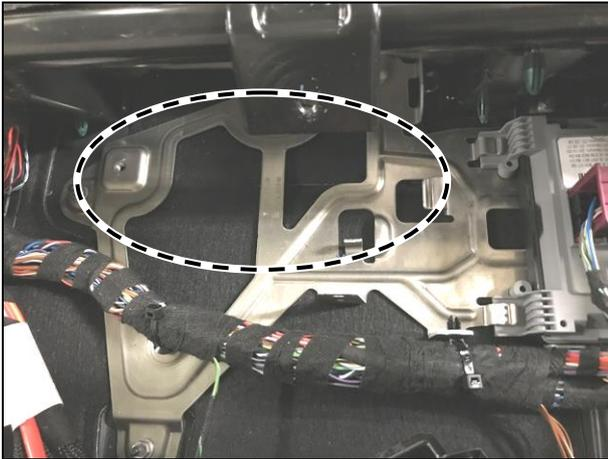

Figure 3
5.1. Mask off holder for fuse and relay module in rear with fabric tape in identified area (figures 3 and 4).